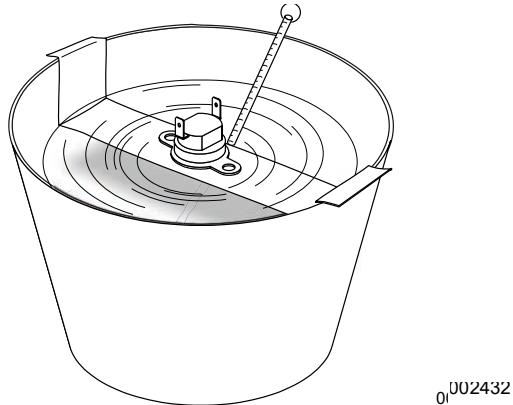

Figure 3-78. Testing the Oil Temperature Switch
10. See Figure 3-78. Immerse the sensing tip of the switch in oil, along with a suitable thermometer.